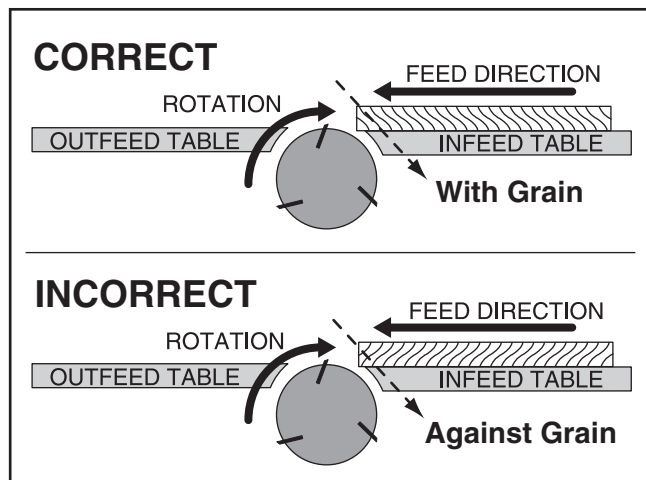
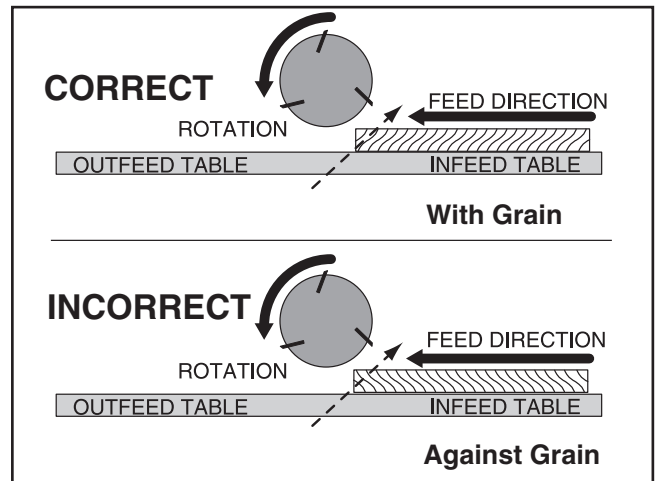

Figure 22. Correct and incorrect grain alignment to cutterhead (jointer).
Figure 23. Correct and incorrect grain alignment to cutterhead (planer).
- **Jointing and surface planing with grain produces better finish and is safer for operator.** Cutting with the grain is described as feeding stock so grain points down and toward you on jointer (see **Figure 22**) or away from you on planer (see **Figure 23**), as viewed from edge.